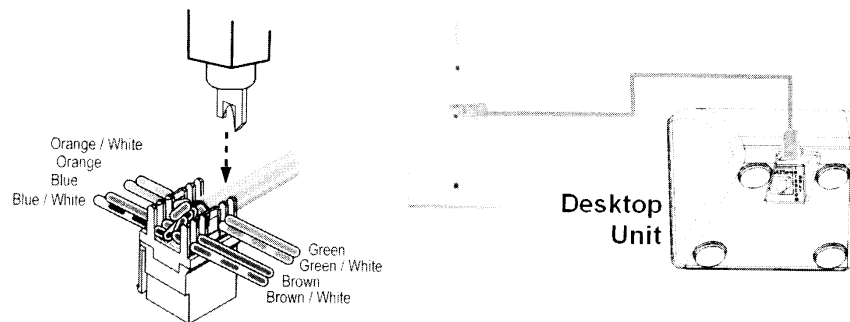

Figure 7 - Trim-Out Desktop Unit(s)
- Untwist cable pairs but be sure to leave 1/2" twist in the pairs between the punchdown insert and the start of the cable insulation (see **Figure 7**).